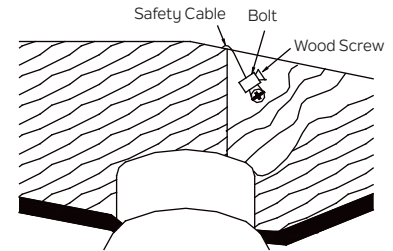

Fig. 12
Step 2. Insert the safety cable through the mounting bracket and one of the holes in the outlet box into the ceiling. Adjust the length of the safety cable to reach the screw and washers by pulling the extra cable through the cable clamp until the overall length is correct, put the end of the cable back through the cable clamp, forming a loop at the end of the cable. Tighten the cable clamp securely. Now, put the loop in the end of the safety cable over the wood screw and under the washer. Tighten the wood screw securely. (Fig. 12)